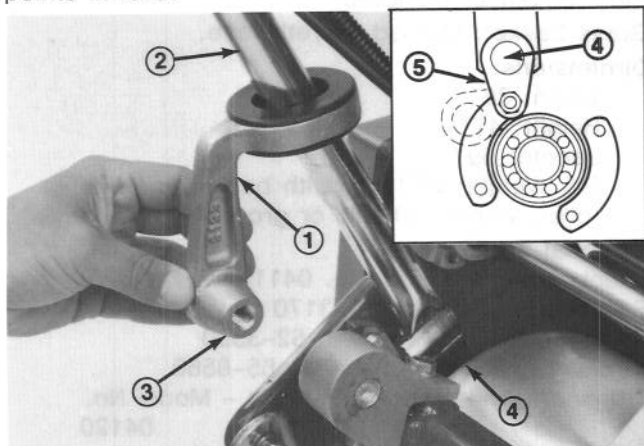

Figure 1
1. Slide a handle arm onto each end of handle as shown in fig. 1. Make sure the boss on each arm points inward.
2. Squeeze handle ends inward and install on mower mounting pins (Fig. 1).
3. Loosen nut (below handle mounting pin) securing handle hold down to sideplate (Fig. 1, Inset).